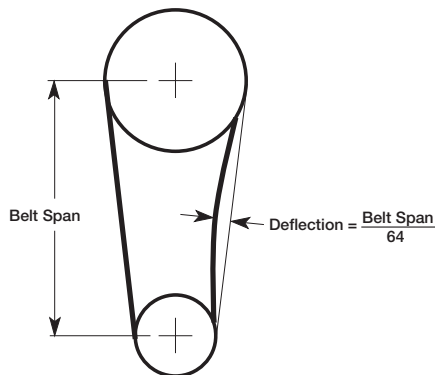
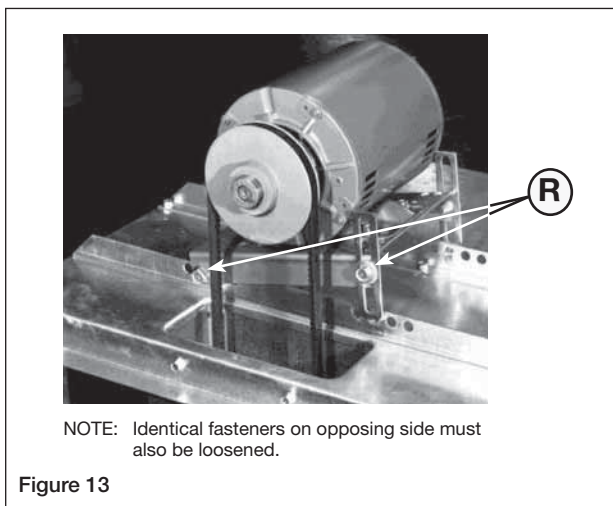

Figure 12
Figure 13
5. **For XIB Fans:** Belt tension can be adjusted by loosening four fasteners marked “R” on the drive frame. (refer to Figure 13). The motor plate slides on the slotted adjusting arms. Belt tension should be adjusted to allow 1/64 inch of deflection per inch of belt span. For example, a 15 inch belt span should have 15/64 inch (or about 1/4 inch) of deflection with moderate thumb pressure at mid-point between pulleys (see Figure 12). Over-tightening will cause excessive bearing wear and noise. Too little tension will cause slippage at start-up and uneven wear.